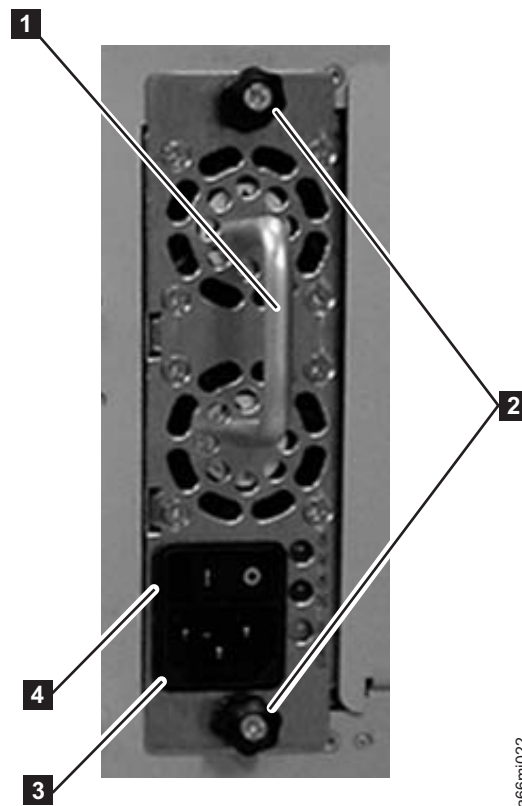

Figure 3-4. Power Supply
1. Loosen the two thumb screws (**2** in Figure 3-4) on the power supply by turning them counterclockwise.
2. To remove the power supply, grasp the handle (**1** in Figure 3-4) and slowly pull it toward you, while supporting it from underneath.